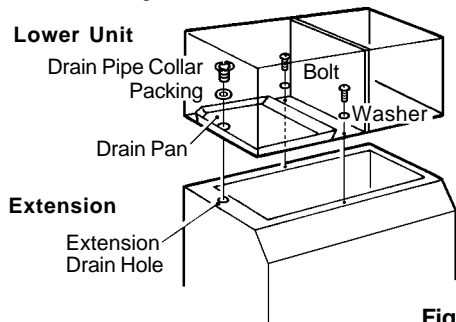

Fig. 6
5) Attach the lower unit (X-type) on the top of the Storage Bin. See Fig. 6.
6) Secure the lower unit with the two bolts and two plastic washers provided. See Fig. 6.
8) [P-200SD] Align the drain hole and the drain pan hole. Insert the Packing (bin accessory) and fasten the Drain Pipe Collar (bin accessory) tightly, within the recommended torque of 39.2 Nm. See Fig. 6.